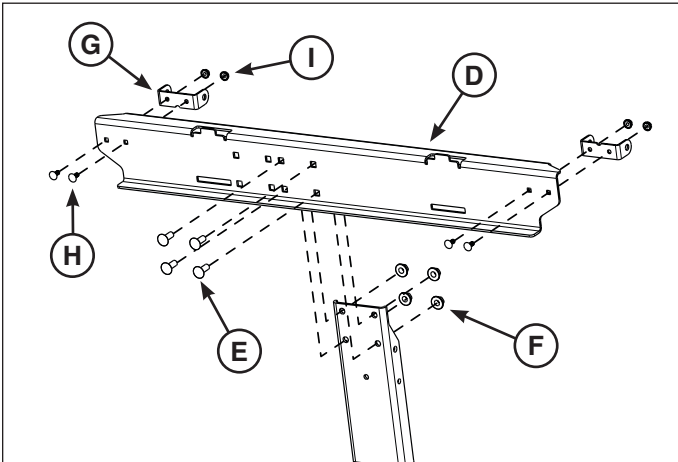

Figure 3
2. Attach the cross support (D, Figure 3) to the upright support with four 3/8 x 1" carriage bolts (E) and four 3/8" whiz lock nuts (F). Tighten securely.
3. Attach one hinge pivot (G) to each end to the cross support as shown with two 1/4 x 5/8" carriage bolts (H) and two 1/4" whiz lock nuts (I). Tighten securely.